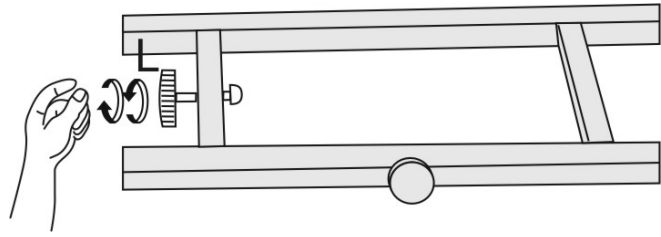

Figure 5
4. Tighten threaded knobs (L) found on tank tray (Figure. 5) so that the LP tank cannot move from side to side. Do not remove plastic cap from end of threaded section.